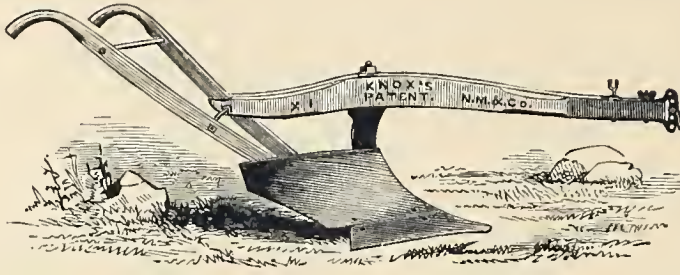

Fig. 273. — Boston Steel Clipper Plow, X 1.
**Boston Steel Clipper Plow, X 1**, represented by Fig. 273, is a one-horse plow, adapted to adhesive soils, working four to six inches deep, and nine to ten inches wide.